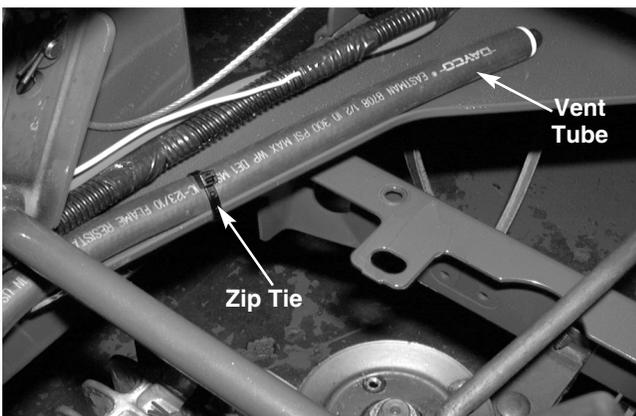

FIGURE 6.
21. Snip the zip tie that secures the hydrostatic vent tube to the frame. See figure 6.
**NOTE:** Make certain the hydrostatic vent tube is zip tied back into place during reinstallation. See figure 6.